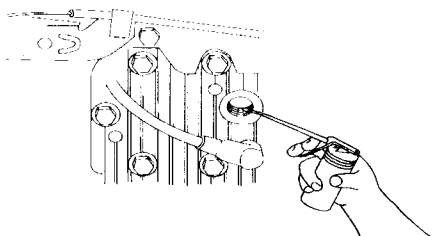

Figure 38
2. Using an oil can, add about one tablespoon of oil through the spark plug hole (Fig. 38).